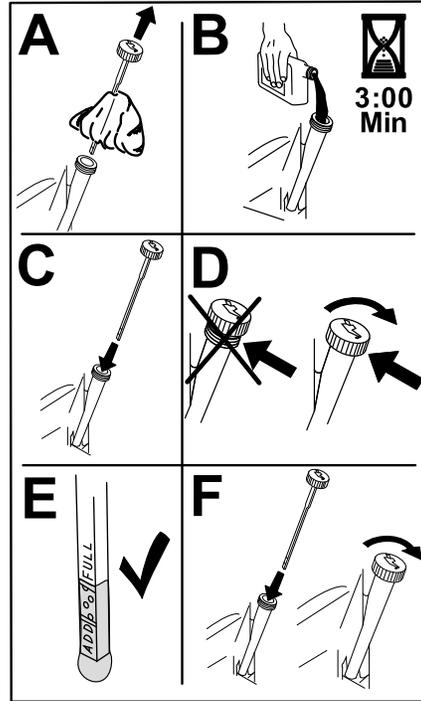

Figure 40
6. Slowly pour approximately 80% of the specified oil into the filler tube and slowly add the additional oil to bring it to the Full mark (Figure 40).